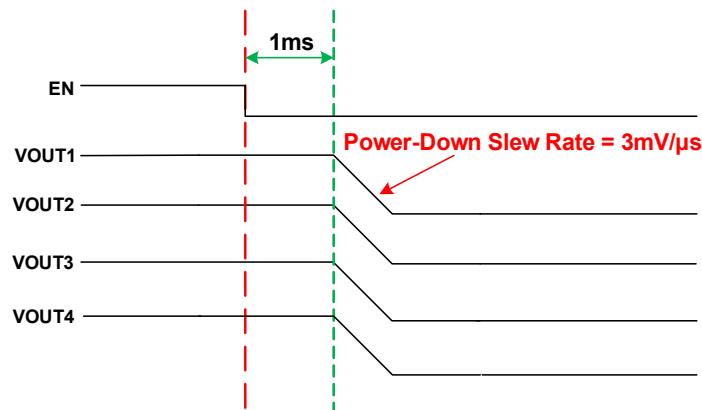

Figure 39. Auto Chip Power-Down Example
Figure 39 provides an example of power-down configurability. The master chip enable pin (EN) transitions from logic 1 to 0. In the Figure 39 example, BUCK1_SHUTDOWN_DLY is set for 1ms, BUCK2_SHUTDOWN_DLY is set for 1ms, BUCK3_SHUTDOWN_DLY is set for 1ms, and BUCK4_SHUTDOWN_DLY is set for 1ms.